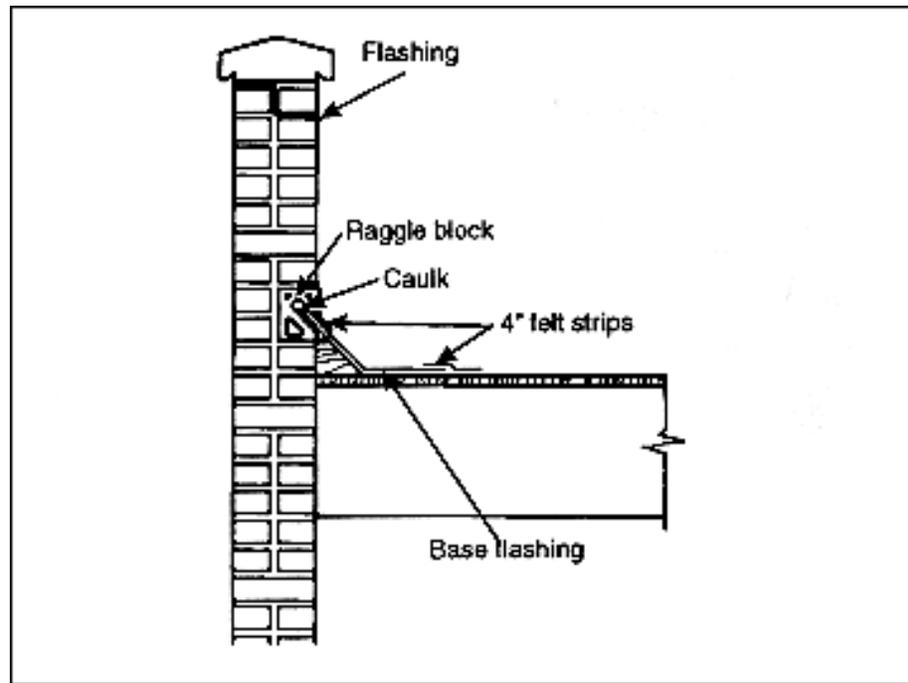

Figure 9-43. Flashing installation at intersection of roof and walls
Step 3. Figure 9-43 shows how to install flashing between the roof and the wall to prevent leakage at the intersection. Fit and caulk the upper end of the flashing into the groove of the raggie block as shown in Figure 9-43.